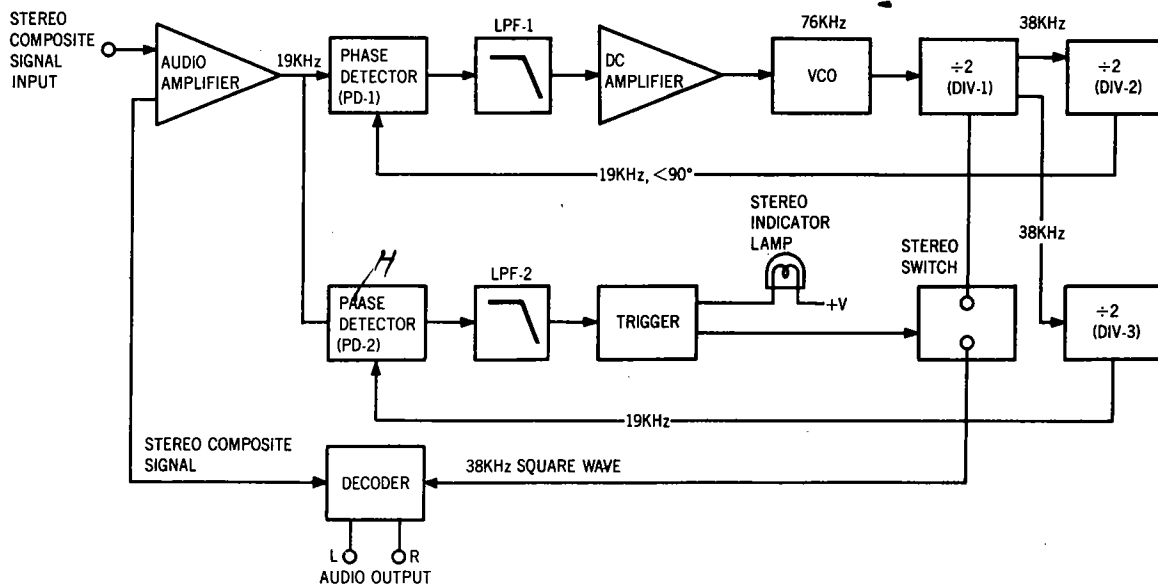

Figure 1. Block Diagram of the HA1156
The stereo composite signal from the buffer amplifier undergoes phase compensation by R301 and C201, is led through the muting switching FET H301 to the input terminal pin ② of the MPX stereo decoding IC H321 on PLL (Phase Locked Loop) basis, and is decoded into the left and right stereo signals, which become available at pins ④ and ⑤, respectively. These decoded left and right stereo audio signals are introduced through the low pass filter consisting of L301 to L304 and C311 to C320 for elimination of undesirable residual switching signal and through the de-emphasis network consisting of R325, R326, C321 and C322 to the npn-ppn direct coupled audio amplifier, where the signals are amplified to a required level for the output from J311 and J313. From these jacks, the audio signals are led through the function switch to the TAPE MONITOR OUT jacks. Figure 1 presents an internal block diagram showing the functions of the PLL basis MPX stereo decoding IC HA1156. The input stereo composite signal, amplified by the audio amplifier, is delivered to the phase detectors PD-1 and PD-2. A part of the stereo composite signal is also delivered to the stereo decoder section. The VCO (Voltage Control Oscillator) produces a free run oscillation in the neighborhood of 76kHz with the time constant determined by the capacitor C305 and resistors R311 and R312 set on the outside of pin ⑭. The VCO output has its frequency divided into 19kHz through the two frequency divider stages (DIV-1, DIV-2), and is reversed to the phase detector PD-1, which contains two input terminals designed to produce an output in proportion to the product of the two input signals. The signal led to one PD-1 input is a 19kHz square wave formed through frequency division of the 76kHz VCO output signal by the two frequency divider stages DIV-1 and DIV-2, and the 19kHz pilot signal included in the stereo composite signal as a reference signal is led to the other PD-1 input. Therefore, the output of the PD-1 which has passed through the low pass filter LPF-1 provides DC output voltage in proportion to the phase variance between the two inputs. This DC output voltage is amplified by the DC amplifier, and is supplied to the 76kHz VCO as a control voltage. This means that the output frequency and phase of the VCO have been phaselocked to the input pilot signal. The 38kHz sub-carrier reproduced by the PLL, as stated above, is delivered through the stereo switch to the stereo decoder section as switching signal, thus driving the decoder stage. One PD-2 input is given the 19kHz resulting from the frequency division completed by the DIV-1 and DIV-3, whereas the other input gets the 19kHz output contained in the composite signal, and the output is provided with a DC output in proportion to the amplitude of the pilot signal.